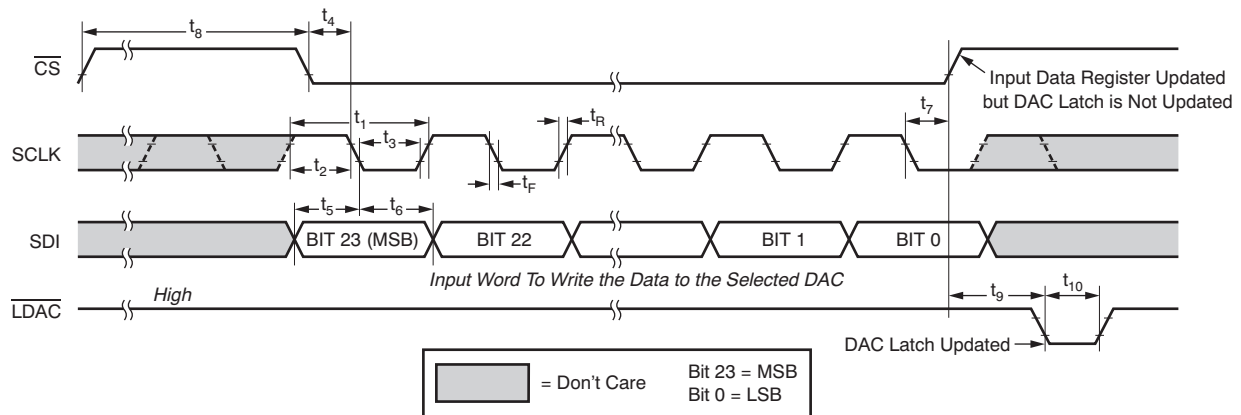

Figure 1. SPI Timing for Stand-Alone Mode
TIMING CHARACTERISTICS For Figure 1 (1)(2)(3)